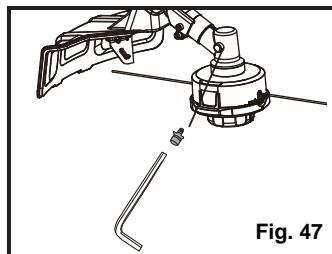

Fig. 47
## LUBRICATION (See Fig. 47)
- Remove the screw and check the level of grease (Fig. 47).